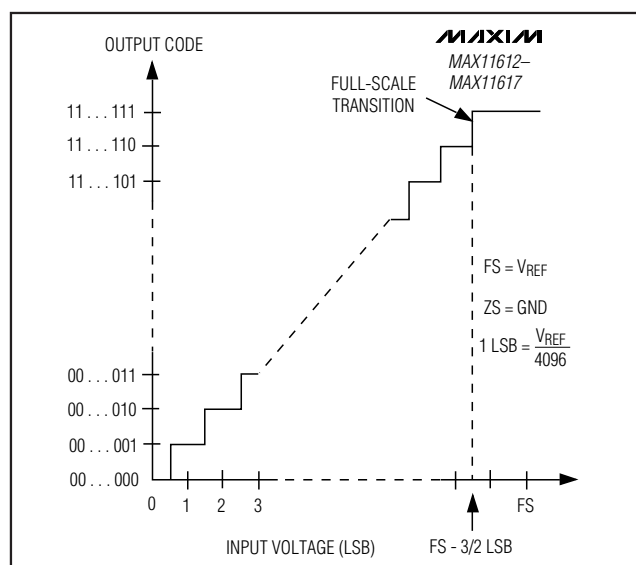

Figure 12. Unipolar Transfer Function
Output data coding for the MAX11612-MAX11617 is binary in unipolar mode and two's complement in bipolar mode with  $1 \text{ LSB} = (V_{REF}/2N)$  where  $N$  is the number of bits (12). Code transitions occur halfway between successive-integer LSB values. Figures 12 and 13 show the input/output (I/O) transfer functions for unipolar and bipolar operations, respectively.